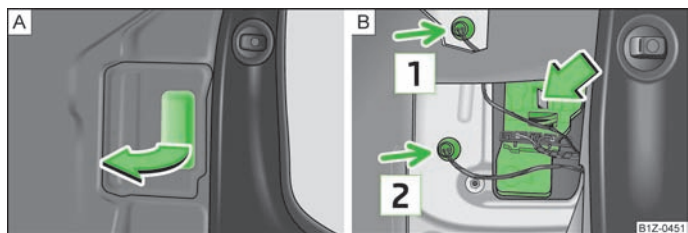

Fig. 172 Luggage compartment: Cover of the lamp holder/removing the lamp holder
- › Open the lamp holder cover » Fig. 172 - [A].
- › Press the catch in the direction of the arrow and remove the lamp holder » Fig. 172 - [B].